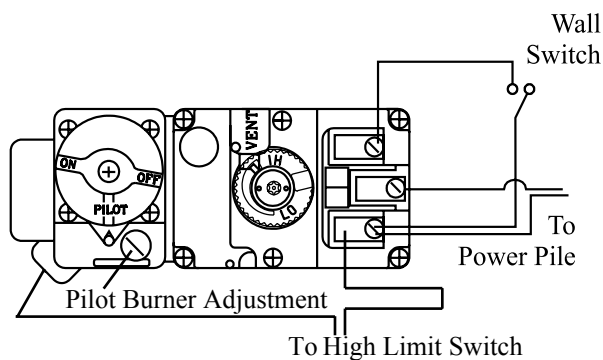

Figure 13. 'Hi-Lo' Adjustment on the Hotshot inset's gas valve.
Hotshot inserts are equipped with an adjustable burner, allowing you to increase or decrease the amount of flames and heat output. To adjust the flames, locate the black knob marked 'Hi-Lo', on the right side of the gas control valve (See **Figure 13**).
1. Locate Pilot Adjustment Screw, see **figure 13**.
Turn the fan On/Off Speed Control to 'On'. The Fan will turn on and off automatically depending on the appliance's temperature. Adjust the fans speed by turning clockwise or counterclockwise. (See **figure 13**.)
- Have the fireplace installation inspected yearly, including a visual check of the insert and vent system, the burner and the pilot flame. For your convenience a 1/8" manifold pressure tap is supplied on the gas valve for a test gauge connection. See **Figure 13**.
Pilot won't ignite	Disconnect remote wires and try to light pilot. If pilot now works, remote connections are faulty. Check wiring diagram figure 13 .
Main burner will not light	<ol style="list-style-type: none"> 1. Check wiring (see figure 13). 2. Check wall switch for proper connection. 3. Check high limit switch.